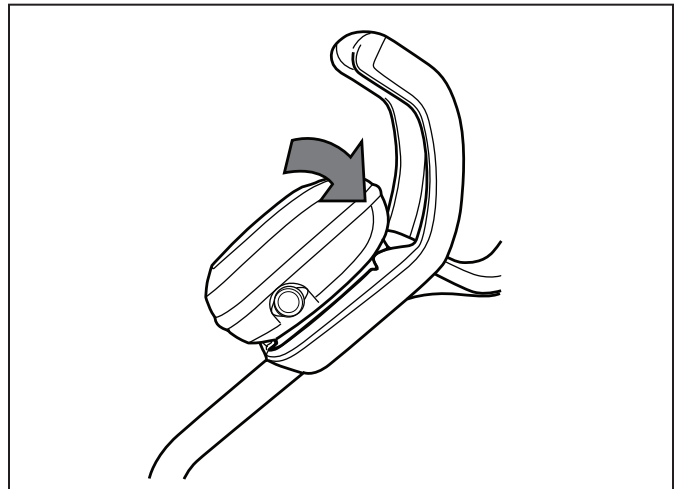

Figure 9. Attach the Control Unit onto Caddy
2. Press control unit onto the caddy hook until it snaps and locks into position (Figure 9).